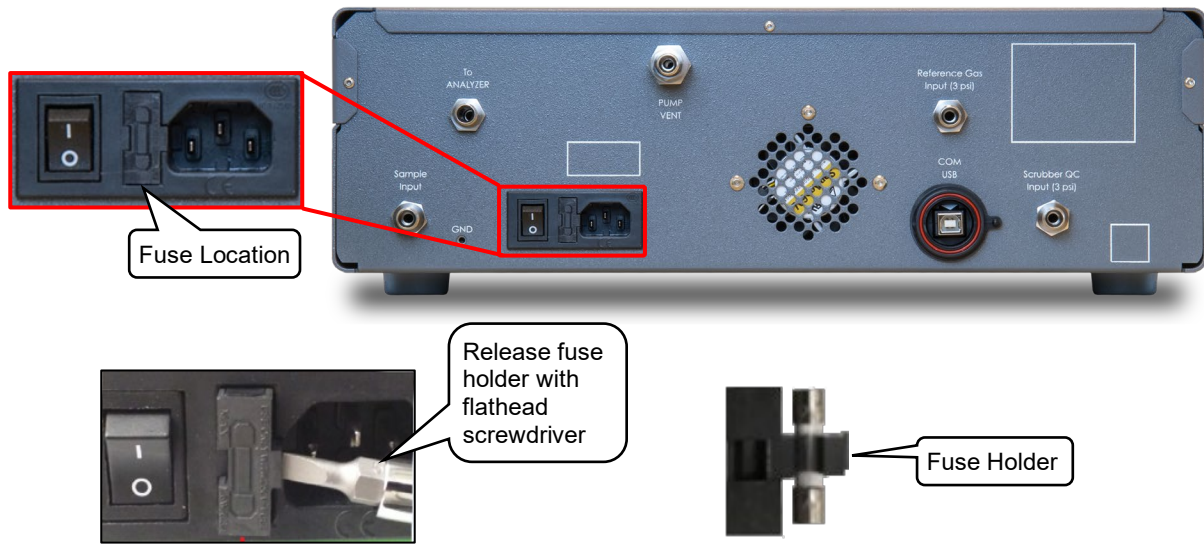

Figure 62: ZRM Fuse Replacement
3. Insert a flathead screw driver under the tab on the fuse holder as shown in Figure 62.